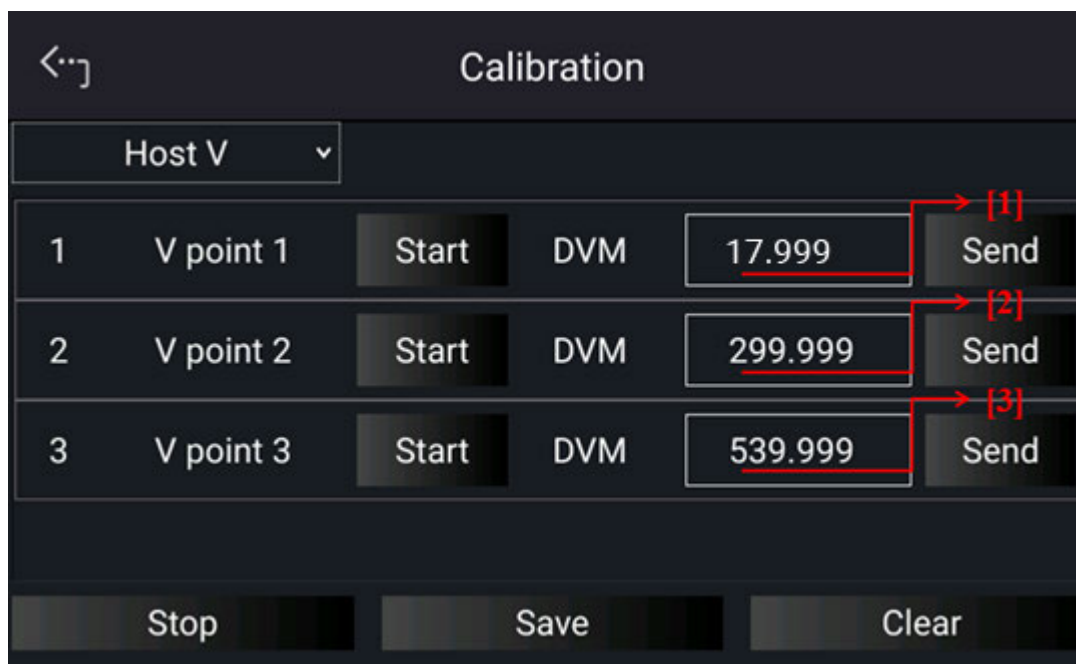

Figure 3-82
5. When the above voltage calibrations are done, tap “STOP” to exit the calibration procedure. To save the calibration data, tap “SAVE”, and tap “CLEAR” to delete the calibration parameters if there is no need to save this data as shown in Figure 3-82.